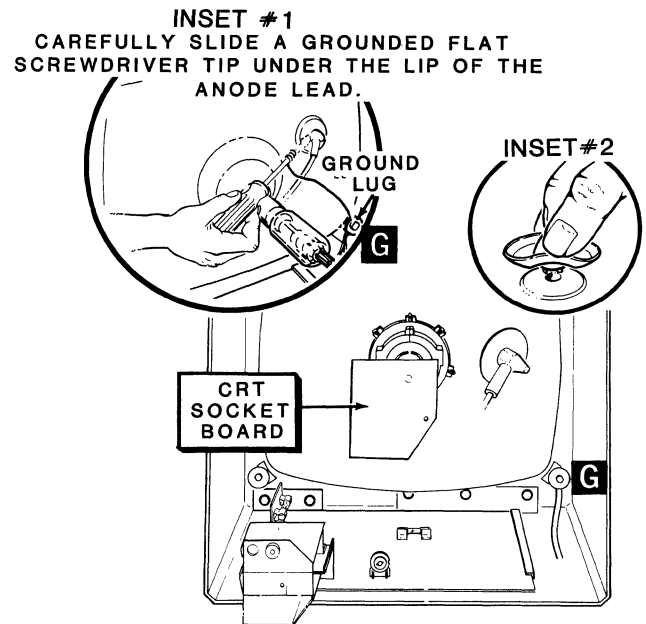

Figure 6.8
2. Refer to Figure 6.8 and use a screwdriver with a jumper lead attached between it and the ground lug at **G** to discharge the high voltage anode lead at the cathode-ray tube as shown in inset #1.
3. Refer to inset #2 of Figure 6.8 and disconnect the anode lead from the cathode-ray tube.